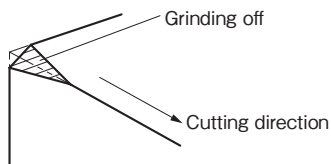

Fig.5
- (3) If the initial cut is such an edge as in Fig.5, before chamfering, grind the edge off.